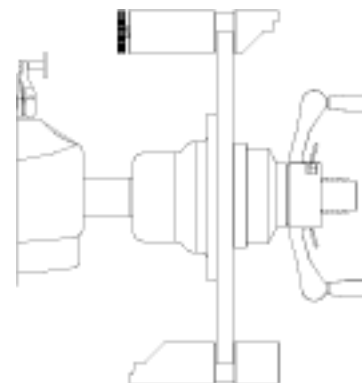

Figure 3-20
3. Screw the 100gram (3.5oz) weight on the left side of the Pruefrotor (Figure 3-20) and lower the wheel guard to begin the measuring run. After the shaft comes to a stop the display will change to "4".